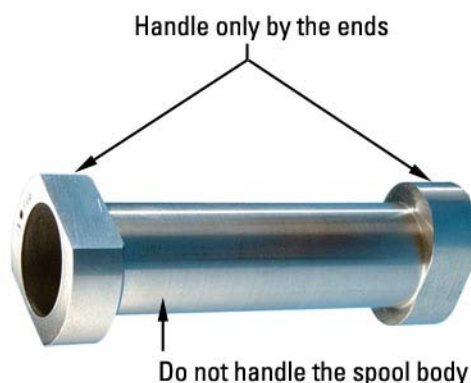

Figure 5–1. Handling the spool safely
1. Remove the lock ring with the wrench provided. Where process fluid is not of a harmful nature, you can remove the spool by inserting your index finger into the spool. Where this is not the case, handle the spool by the ends, as shown in Figure 5–1.